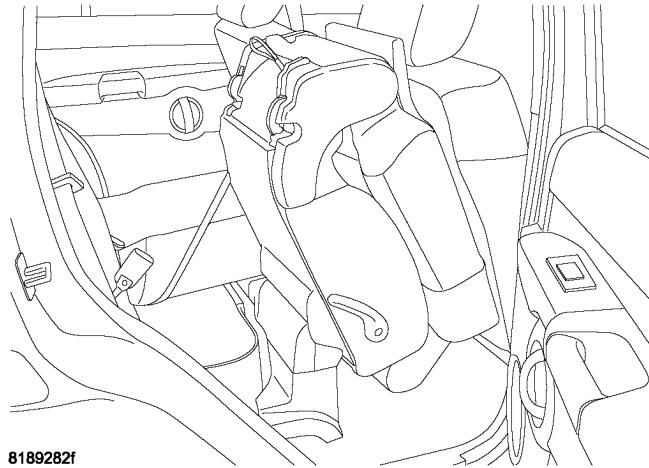

Fig. 5 SEAT IN TUMBLE POSITION
6. Release the seat from the rear latches and move to the tumbled position (Fig. 5).